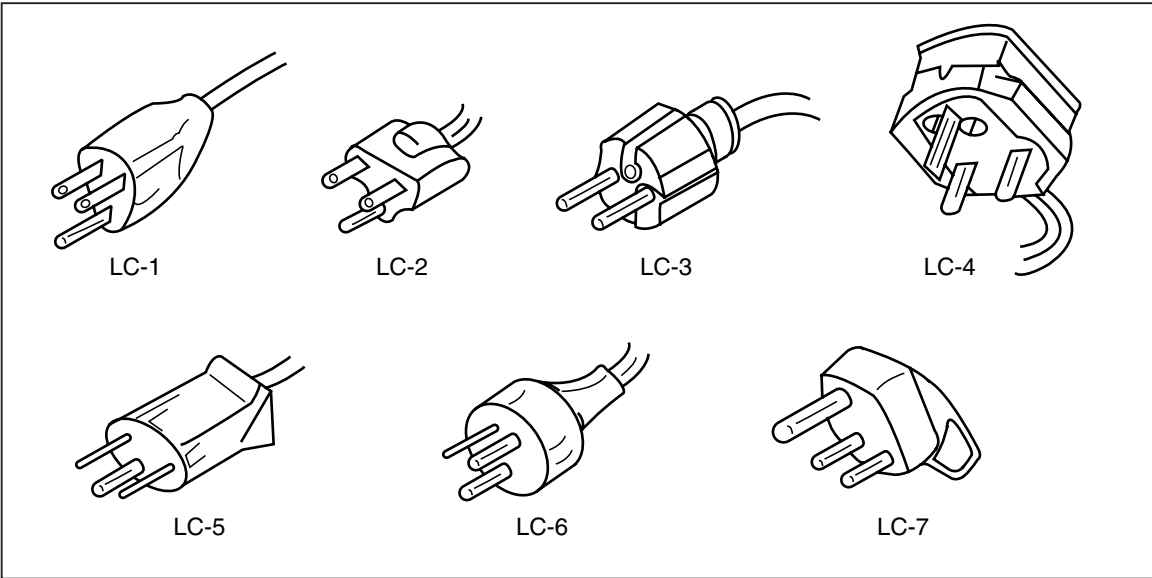

Figure 3. Line-Power Cord Types Available from Fluke
- 3. Connect the power cord to a properly grounded three-prong outlet. See Figure 3 for line-power cord types available from Fluke. Refer to Table 4 for descriptions of the line-power cords.